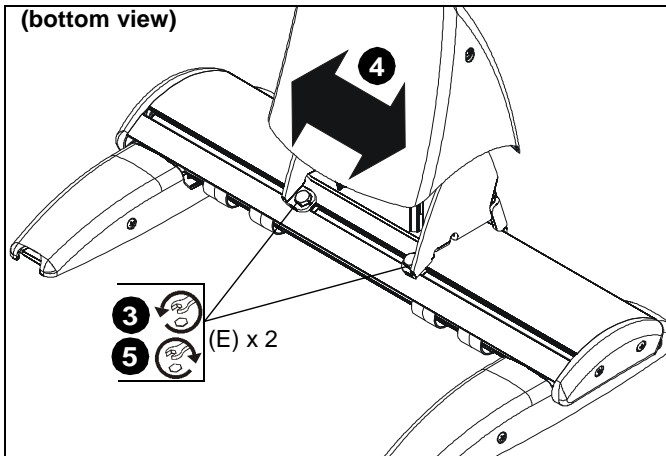

Figure 40
3. Loosen two 1/4-20 x 5/8" hex head cap screws (E) on underside of mounting bracket. (See Figure 40)